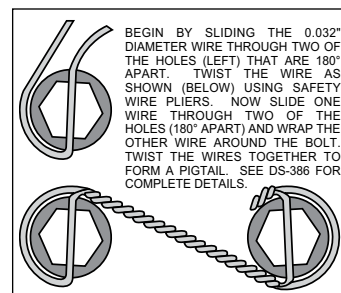

Figure 3. Safety Wire Diagram
- The hat/rotor assembly (5) has been pre-assembled at the factory using red *Loctite*® 271 on the mounting bolts and torqued to specification. For an added measure of security, the bolts may be safety wired using standard 0.032 inch diameter stainless steel safety wire as shown in Figure 3. Please refer to Wilwood's data sheet DS-386 (available at www.wilwood.com/Pdf/DataSheets/ds386.pdf) for complete safety wire installation instructions.